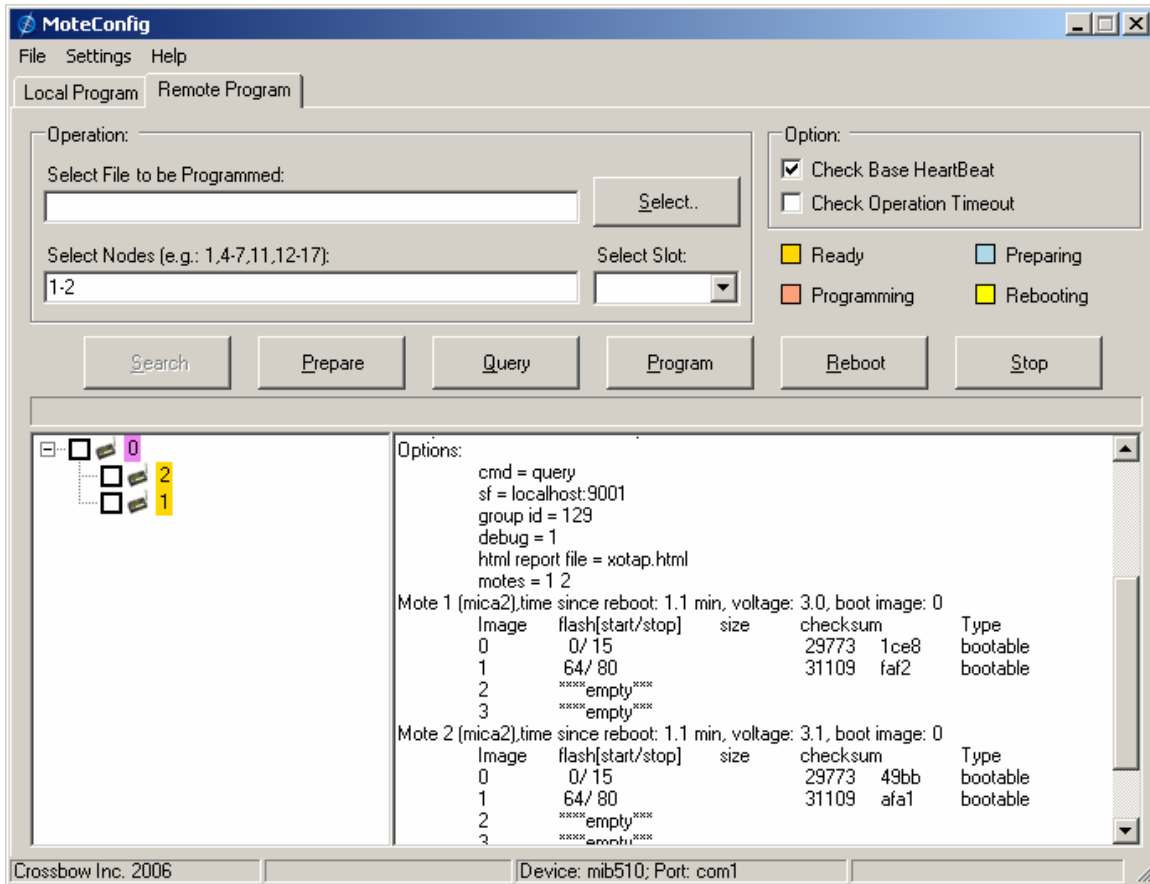

Figure 5-6: Nodes being queried for information.
- a) The Query button allows users to see the available slots and their contents on each Mote as shown in Figure 5-6.